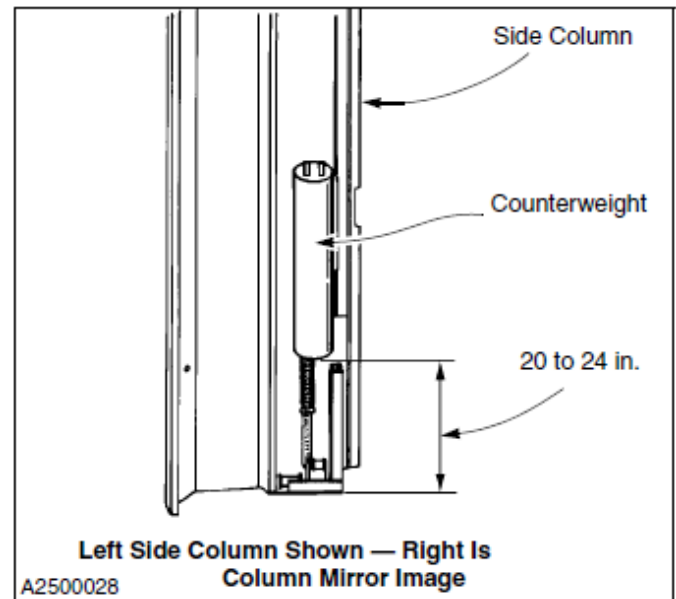

Figure 78
4. Place a wood block under the counterweight to support it at the height shown in Figure 78.